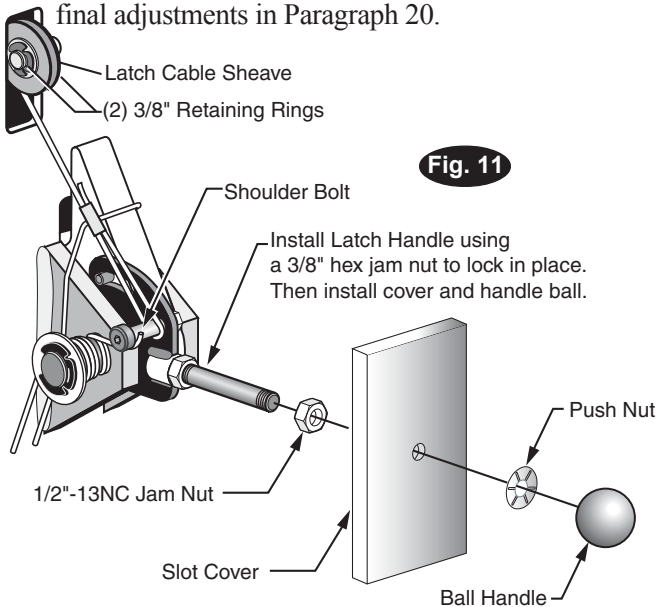

Fig. 11
- A) Slip loop end of cable over end of shoulder screw on right side latch control plate, Fig. 11.
- B) Feed the other end of the cable through the latch cable sheave slot making sure that the cable is running under the bottom side of the latch cable sheave and inside the right column, Fig. 11.
- G) At this point you **MUST** install the latch handle, jam nut, and right column latch cover Fig. 14 & Fig. 11. Install latch handle ball, Fig. 11.